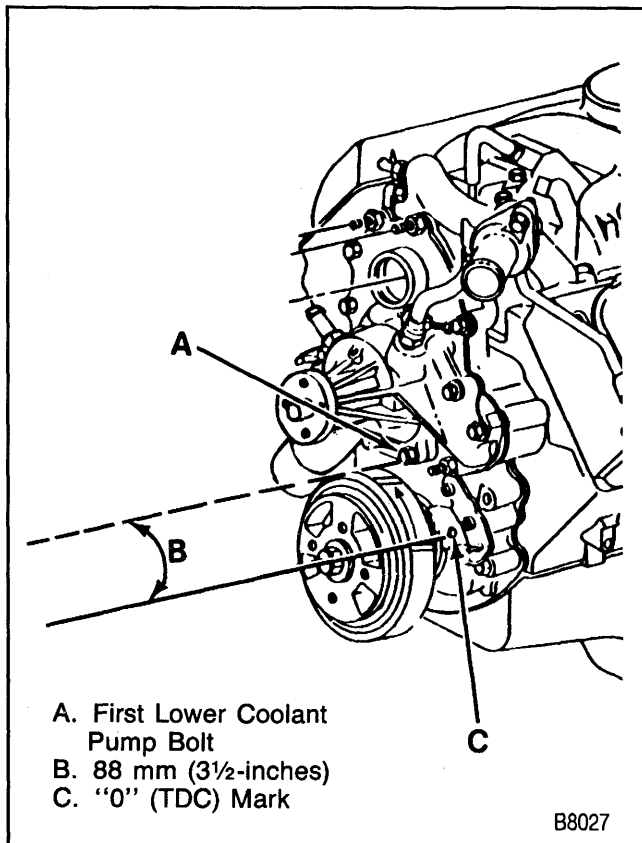

Figure 13—Aligning the Timing Mark
- B. Rotate the engine to the left 88 mm (3 1/2 inch), measured at the torsional damper. This measurement can be estimated by aligning the torsional damper mark with the first lower coolant pump bolt (figure 13). This procedure will position the engine so no valves are close to a piston crown.